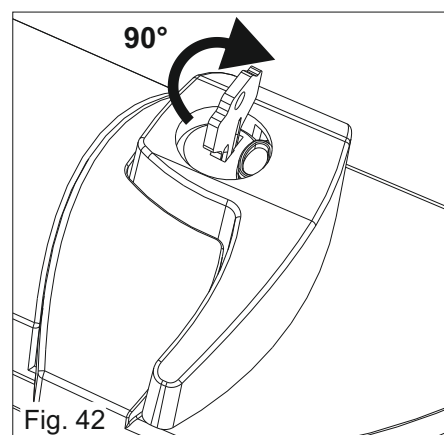

Fig. 42
- 2) Insert the key and turn of about 90° clockwise (Fig. 42)